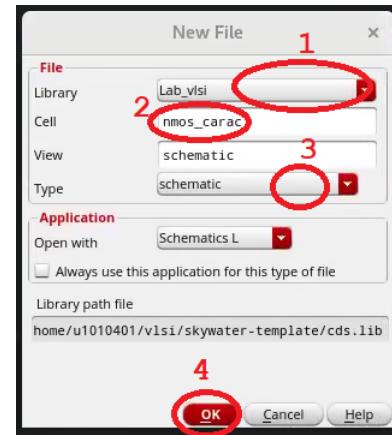

Figure 4: Creating a new cell.
1. Create a new cell for the *nmos* characterization (*File* -> *New* -> *Cellview...*). Verify that your design library is selected in the *Library* field. Specify the name of your cell in the *name* field (such as *nmos\_carac*). For now, you will perform an electrical simulation through a schematic so choose the schematic type, as depicted in Fig. 4, and click **OK**.